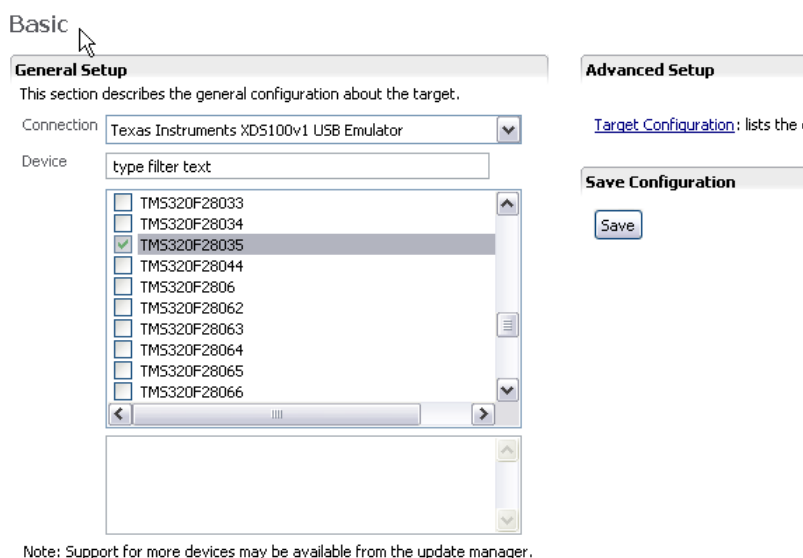

Figure 4. CCS General Setup
8. Device: TMS320F28035 and click Save (see Figure 4).